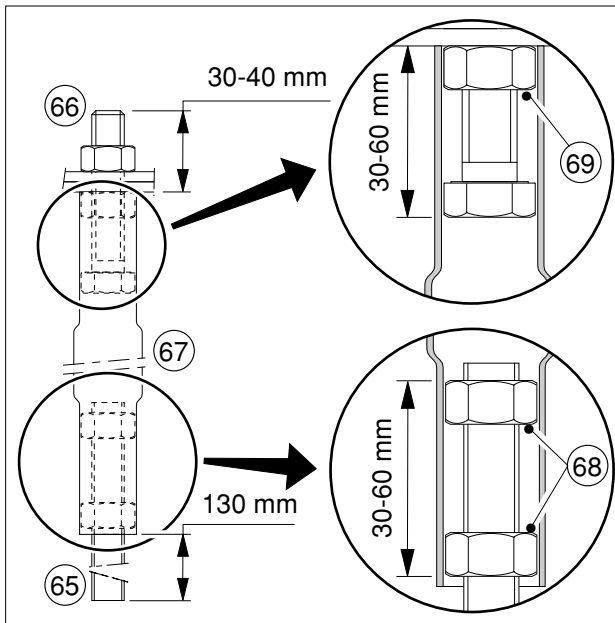

fig.21.1 Mounting rods
3. Clamp stud **65** (M16 x 200) with nuts **68** (M16) in the pipe using the pipe press. See figure 21.1 and the User's Manual for the pipe press.
4. Clamp nut **66** (M16 x 80) with nut **69** (M16) in the pipe using the pipe press. See figure 21.1 and the User's Manual for the pipe press.
See figures 21.1 and 21.2.